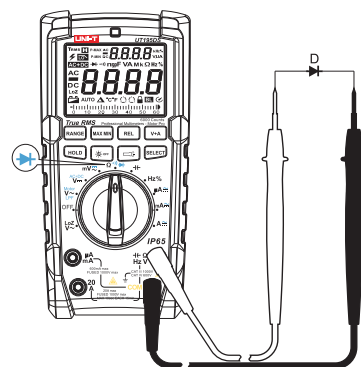

Figure 4
7. Diode Measurement (see Figure 4)